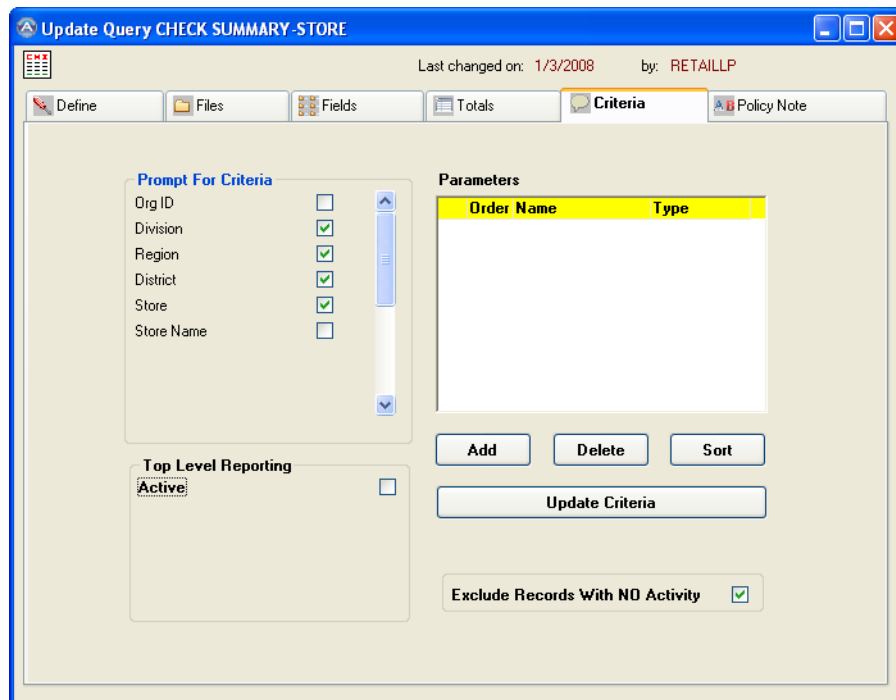

Figure 1-12: Update Query - Criteria Tab
1. Click the **Criteria** tab on the **Update Query** window or **Add New Query** window (Figure 1-12).
1. Click the **Criteria** tab on the **Update Query** or **Add New Query** window (Figure 1-12).